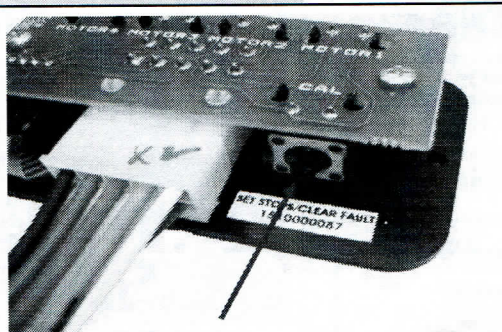
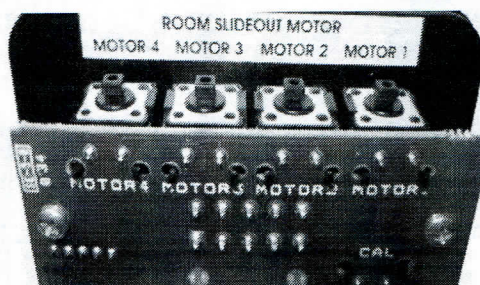
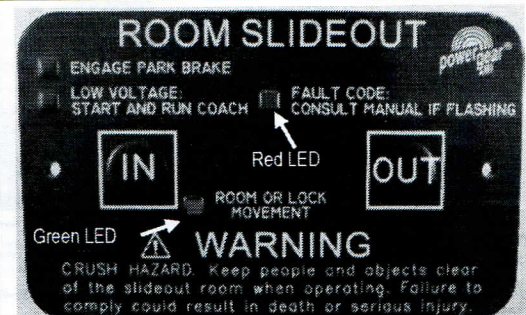

Figure 10 Set Stops/Clear Fault Button
Figure 11 Room Slideout Motor Buttons
Figure 12 Touchpad
**Note:** At any time during the program procedure, the unit will exit program mode if the room has not been moved for two (2) minutes or if a fault is detected during programming. The **FAULT CODE** and **ROOM OR LOCK MOVEMENT LED's** will flash rapidly for 10 seconds to indicate that the programming procedure failed. After the 10 seconds of flashing, the control will automatically default to **FAULT CODE 1** (see **FAULT CODES**, page 7) and programming must be restarted.
1. If the **TOUCHPAD** (FIGURE 12) is mounted to the wall, remove it to access the buttons (FIGURES 10 & 11) on the back side.
2. Press and hold the **SET STOPS/CLEAR FAULT** (FIGURE 10) button on the back of the wall touchpad for five (5) seconds. The **FAULT CODE** and **ROOM MOVEMENT LED's** will light while the button is held down.
- After five (5) seconds, the **GREEN LED** will begin flashing and the **RED LED** will remain lit (FIGURE 12).
- a. Press and hold the slideout room motor buttons (**MOTOR 1** and **MOTOR 2**, FIGURE 11) on the back of the wall **TOUCHPAD** (FIGURE 12) that correspond to the slideout motors you want to move. These buttons correspond to the slideout room motors.
- c. Move the room to the fully retracted position. Press and release the **SET STOPS/CLEAR FAULT** (FIGURE 10) button on the back of the wall touchpad to program the retracted stop position. The **RED LED** will now start to flash and the **GREEN LED** (FIGURE 12) will remain lit.
- b. Press the **IN** or **OUT** button on the front of the wall **TOUCHPAD (FIGURE 12, page 4)** depending upon direction of rail movement you desire.
- d. Press and release the **SET STOPS/CLEAR FAULT (FIGURE 10, page 4)** button on the back of the wall touchpad to program the extended stop position.
- If both LED's flash rapidly for one (1) second and then shut off, the control has been programmed correctly and is now in normal operation mode.
- If both LED's flash rapidly for 10 seconds, the control has **NOT** been programmed correctly or the system is wired incorrectly. The **TOUCHPAD (FIGURE 12, page 4)** will flash the fault code that occurred during programming. Refer to the **FAULT DIAGNOSTICS/TROUBLESHOOTING** section (**page 6**), repair the fault, and repeat the **PROGRAM MODE** procedure starting with **STEP 1, page 4**.
5. Re-install the wall **TOUCHPAD (FIGURE 12, page 4)**. Programming of the control is now complete.
- The **GREEN LED (FIGURE 12, page 4)** indicates the system operation.
- The **RED LED (FIGURE 12, page 4)** indicates a fault or a problem with the system. Refer to the **FAULT DIAGNOSTICS/TROUBLESHOOTING (page 6)** for additional information.
6. Press and hold the **OUT** button (**FIGURE 12, page 4**). There will be a slight delay before the room will begin to move, this is normal.